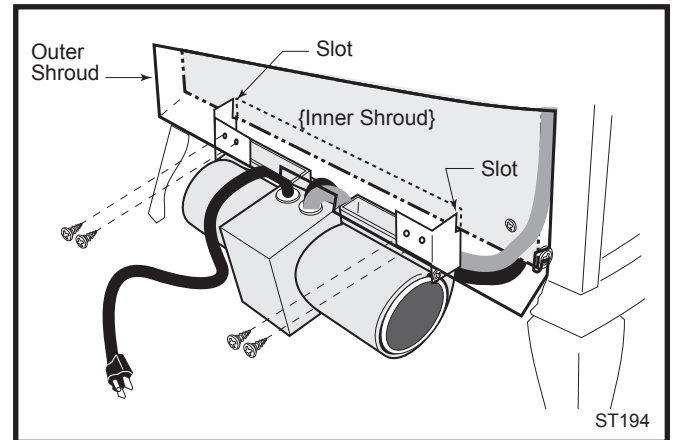

**Fig. 11** Remove the snapstat and grommet from the bracket and insert the grommet into the inner shroud.
5. Connect snapstat leads. Disconnect the snapstat module from the leads inside the snapstat bracket. (Fig. 11) Bend open the snapstat bracket. Use needlenose pliers to remove the black plastic grommet from the bracket. Discard the bracket. Insert the grommet and wires into the large hole at the bottom right corner of the inner shroud. Feed the snapstat wire leads through the grommet into the stove interior. Connect the two wires to the two snapstat extension leads attached to the inner shroud.